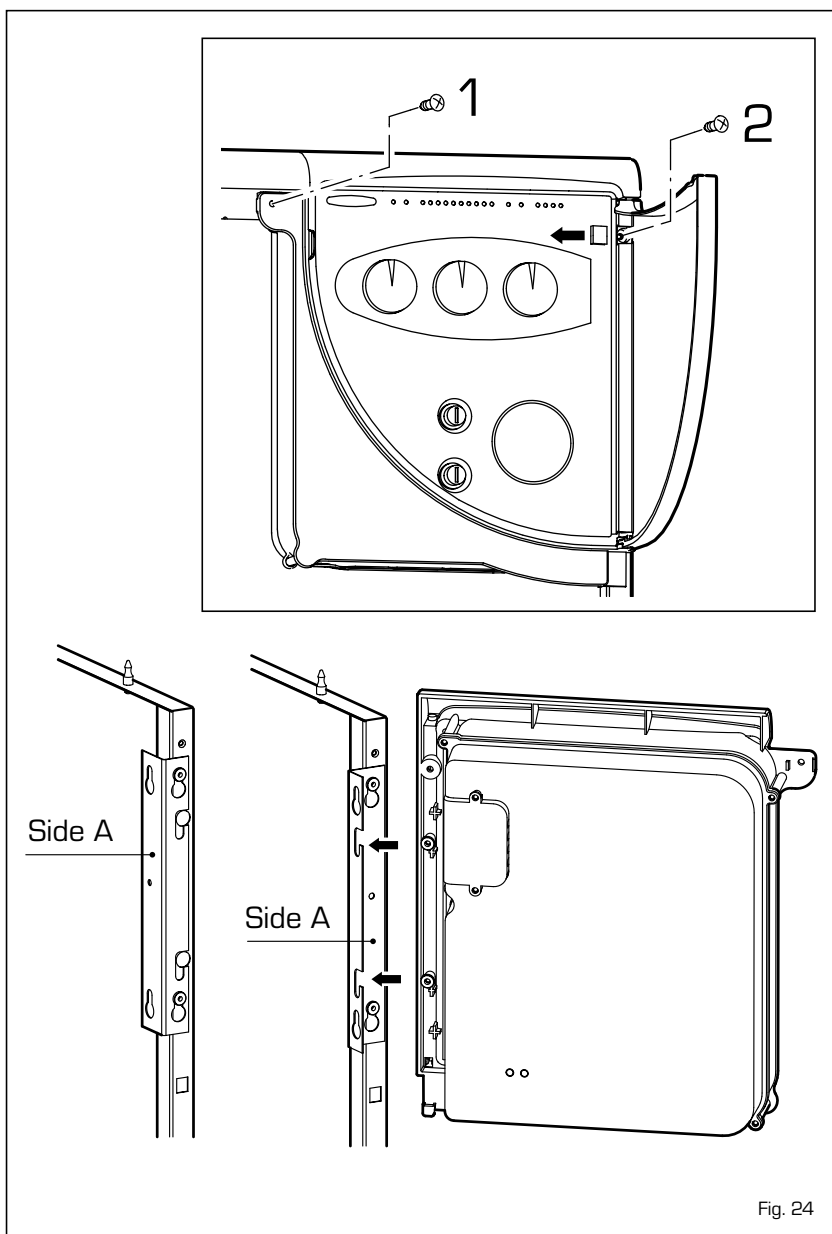

Fig. 24
5.6.1 Casing cover and control panel dismantling (fig. 24)